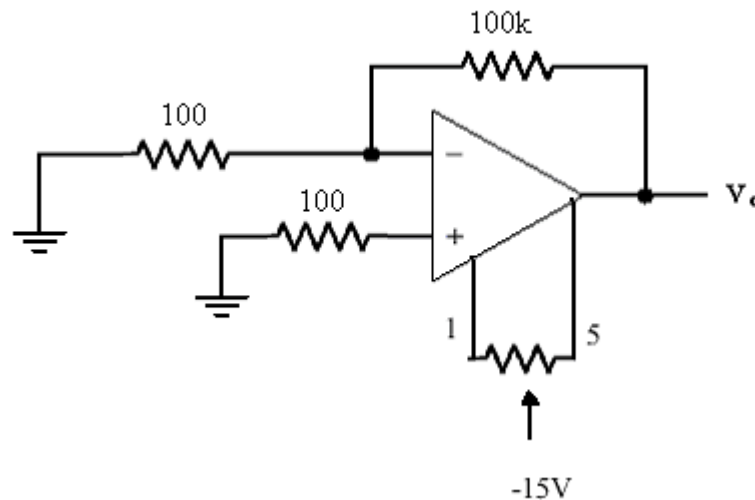

Figure 6-6: Elimination of offset voltage
f) To eliminate this offset voltage, connect the stationary ends of a 5k pot to pins 1 and 5. Now connect the wiper of the pot to the -15V supply. Use the pot to zero the output of the amp. This is how offset voltage is eliminated. (See Figure 6-6)